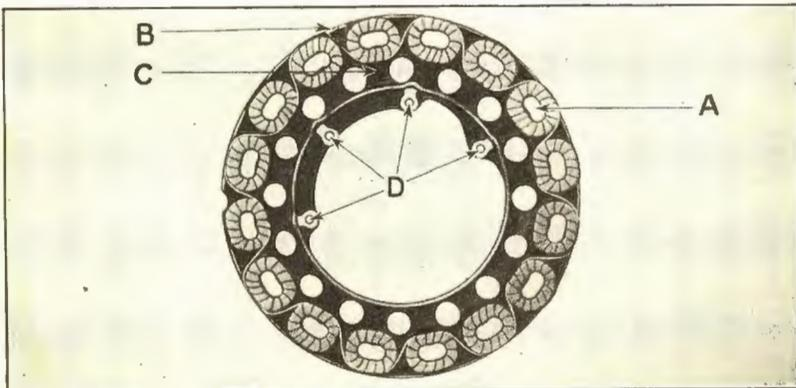
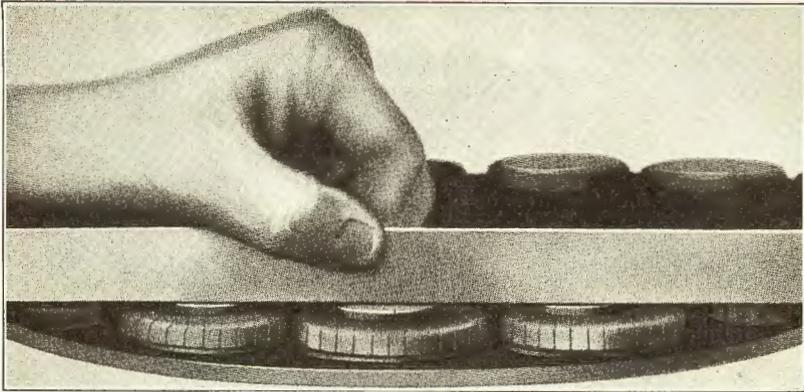

Fig. 500
Fig. 501
- 996** To locate a grounded or shorted coil, use electric light current, (110 or 220 AC or DC), first passing it through an electric soldering iron or other electrical resistance, which draws between three and five amperes. Fasten one wire of this testing outfit to a bare spot on the coil support, (points "D" Fig. 500). With the other wire touch
contact "B". While the current is passing through the coil assembly, lay a piece of steel, about four inches long, across the cores of adjoining coils, as shown in Fig. 501, until all cores have been touched. If a coil is found where all the coils beyond it give no magnetic pull, that coil (the last live one) is grounded. Examine it to see if the wire leading from it to the first dead coil is grounded on the casting. If not, the last live coil is grounded on its core (See "A" Fig. 500) and by lifting it off of the casting, the dead coils will become alive, unless there is another grounded coil.